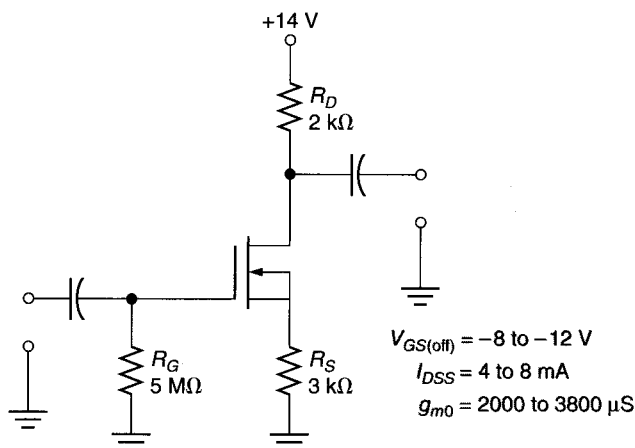

FIGURE 13.38
20. Determine the range of  $A_v$  values for the circuit shown in Figure 13.38.